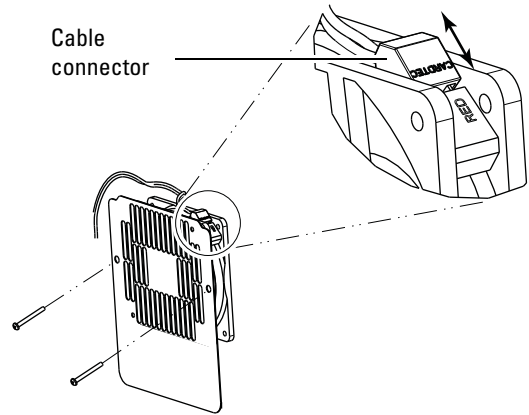

Figure 33: Remove fan mounting screws and disconnect cable (view from inside refrigerator)
13. From the front interior of the refrigerator, remove the two Phillips screws holding the fan in place and disconnect the fan's power cable (Figure 33).